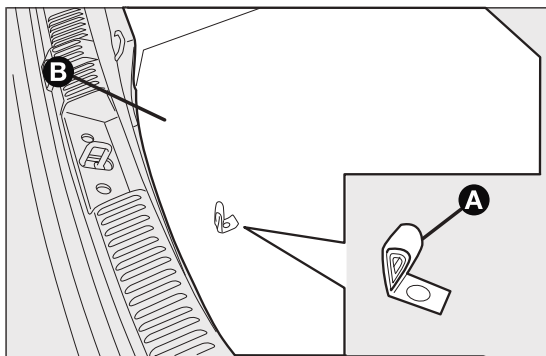

fig. 123
- turn the engine off and pull up the handbrake; engage first gear or reverse; use handle A to remove the rigid preformed cover B fig. 123;